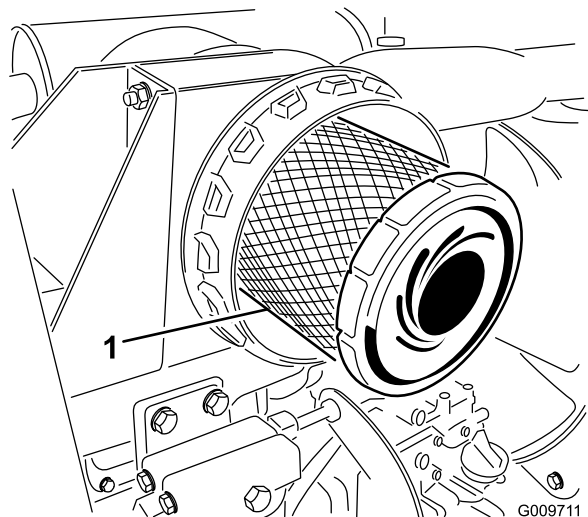

Figure 35
3. Remove and replace the primary filter (Figure 35).